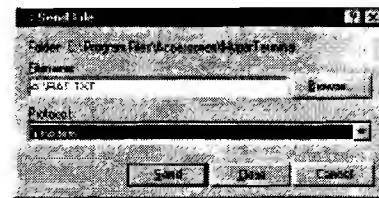

Figure 4 – Send File Dialogue Box
- i. On Computer 1: Select *Transfer* menu -> *Send File*(or try right-clicking in the HyperTerminal window). Insert the disk into the A: drive and enter *Filename:* *A:\RAT.TXT* Select *Protocol: Ymodem* (See figure 4). Press *Send*.